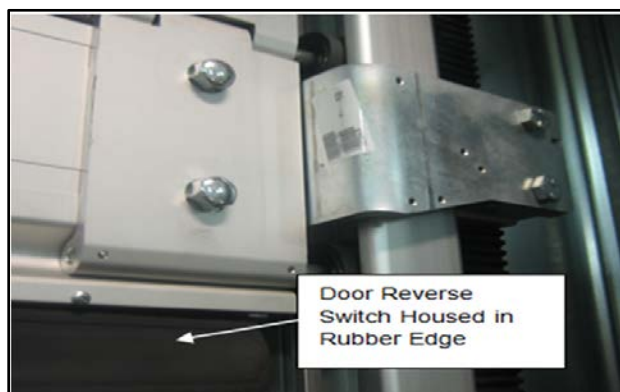

Figure 15
3. When the door is a few feet from the fully closed position, hit the rubber reversing edge that runs along the bottom edge of the door. Stand outside the photo eyes to avoid activating the photo eye circuit. (See Figure 15.)